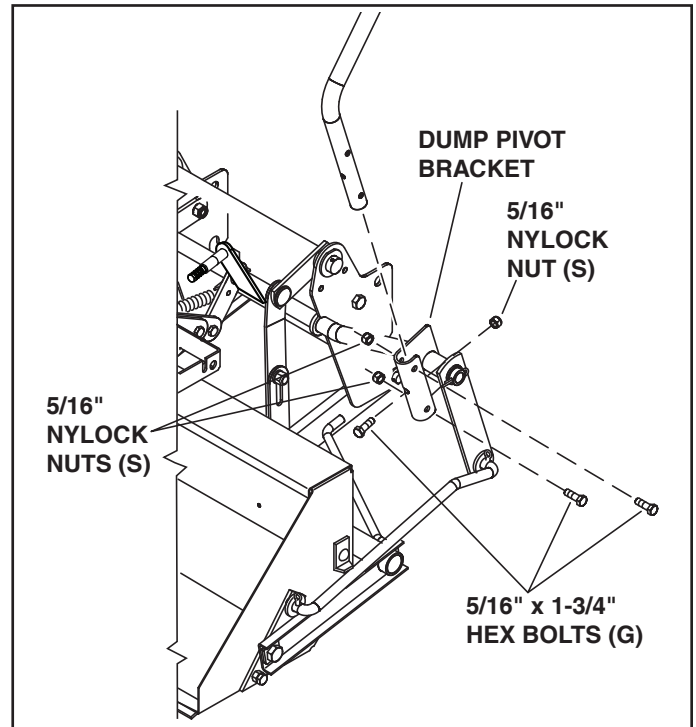

FIGURE 14
STEP 15: INSTALL DUMP HANDLE TUBE (SEE FIGURE 14)
- Install the dump handle tube to the dump pivot bracket assembly using three 5/16" x 1-3/4" hex bolts (G) and 5/16" nylock nuts (S).